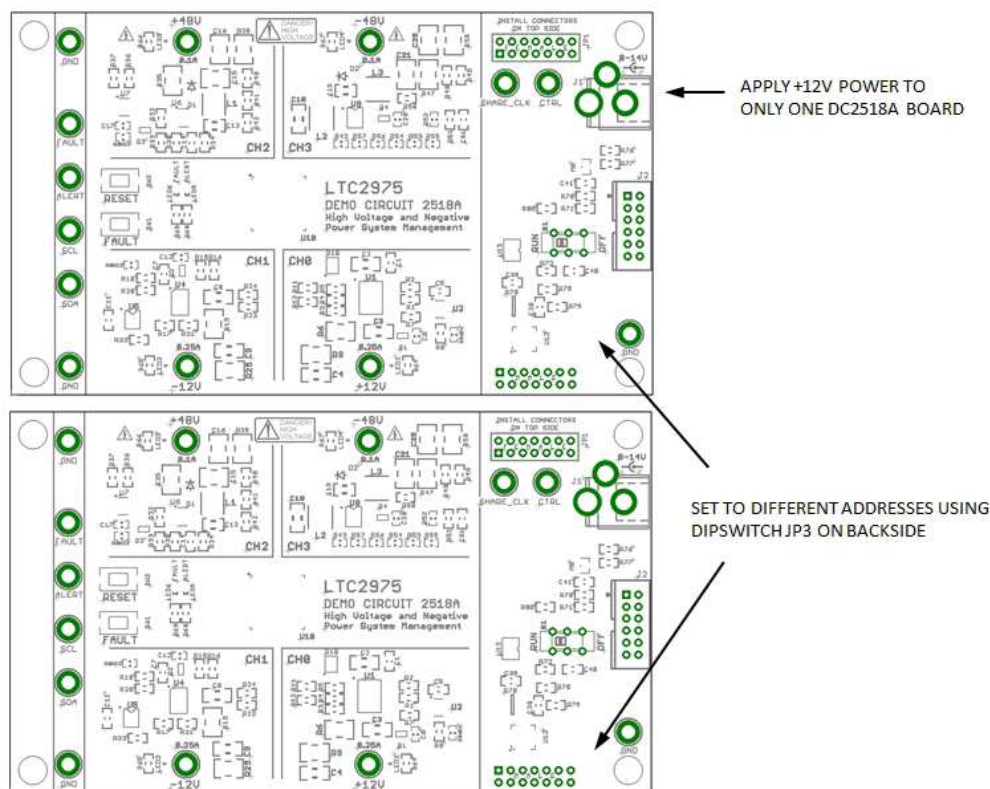

Figure 22. Array of Multiple Board Sets
3. Plug in the +12V V_{IN} power into one of the boards as shown in Figure 22. Only one +12V power source is allowed.